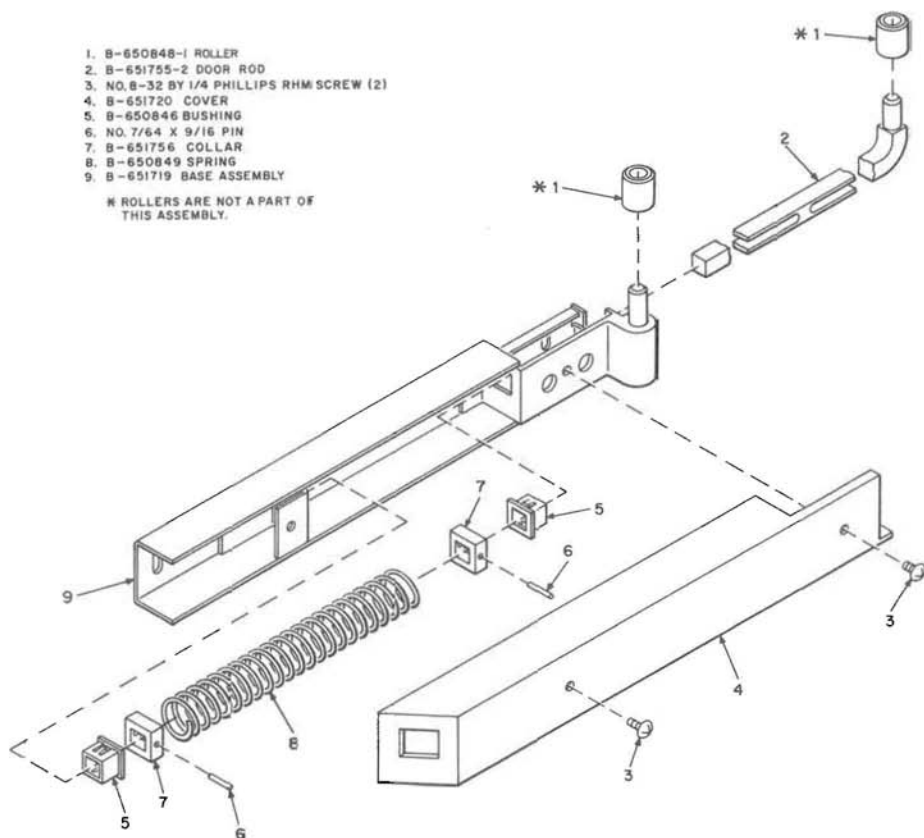

Fig. 25—B-651721-2 Door Guide Assembly
4.28 The KS-19580 booth will have either a B-651721-2 short-roller door guide assembly (Fig. 25) or a B-993172-2 long-roller door guide assembly (Fig. 26). The B-993172-2 door guide assembly requires a different ceiling, baffle, and a deeper track to accommodate the longer roller. If a problem exists with door guide rollers jumping out of the track, booths can be modified in the service center to accept the long-roller door guide.
- Remove two screws and B-651720 cover (Fig. 25 and 26.)